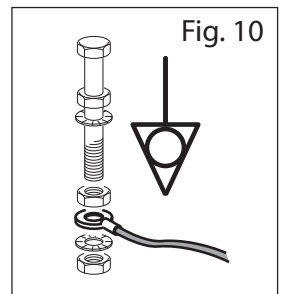

Fig. 10
The equipment must be included in an "Equipotential" earth unload system Fig. 10)
- Connect an edge of the earth electric cable (the cable must be characterized by the double colour yellow/green) to the system used for the appliance “Equipotential” connection (see schematic drawing Fig. 10).